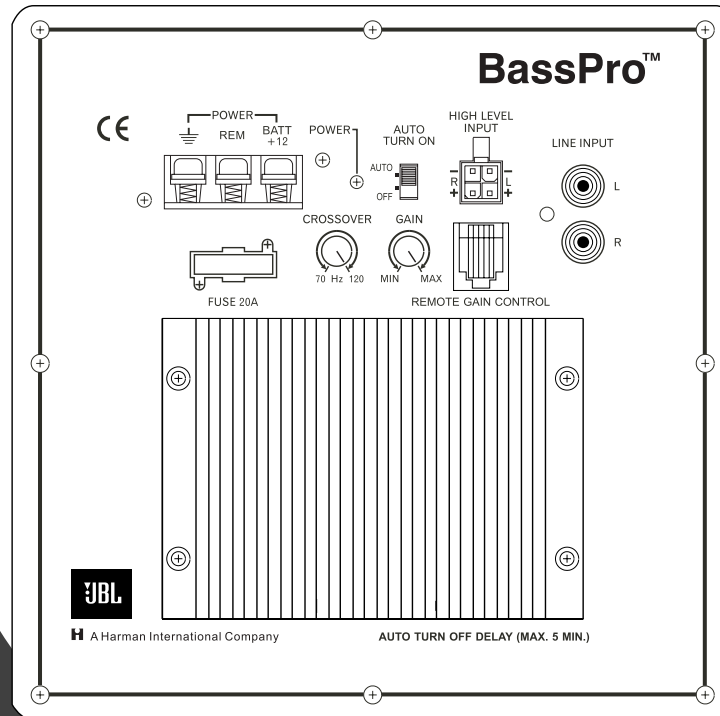

Figure 10.
Bass Pro has controls and indicators that help simplify sonic integration with almost any vehicle's unique acoustic properties. These controls are located on the amplifier panel, as shown in **Figure 10**.
2. On BassPro's amplifier panel, set the CROSSOVER to its maximum frequency of 120Hz, as shown in **Figure 10**.